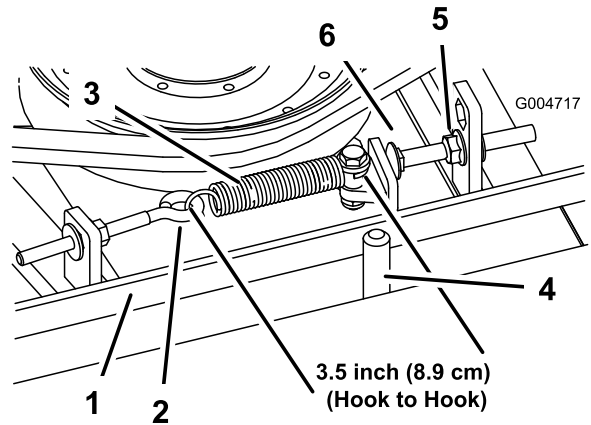

Figure 99
When properly tensioned, the inside measurement of the extension spring (hook to hook) should be approximately 8.3 to 9.5 cm (3-1/4 to 3-3/4 inches). Once the correct spring tension is attained, adjust the stop bolt (carriage bolt) until there is approximately 2 to 5 mm (0.065 to 0.185 inch) clearance between the head of the bolt and the idler arm (Figure 99).
Note: Ensure that the belt is positioned on the spring side of the belt guide (Figure 99).
2. Loosen the eye bolt allowing the removal of the extension spring (Figure 99).
3. Loosen the flange nut securing the stop bolt to the mounting tab and move the idler pulley away from the belt to release the belt tension (Figure 99).
9. Connect the extension spring (Figure 99) to the eye bolt and tension the belt as follows: